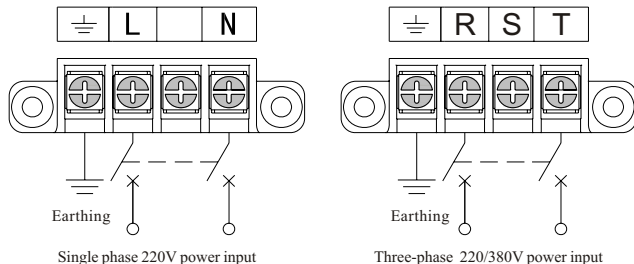

Fig.3-5 Diagram 1 for Main Circuit Terminals
1. The main circuit terminals are shown as in the figure 3-5~3-6.